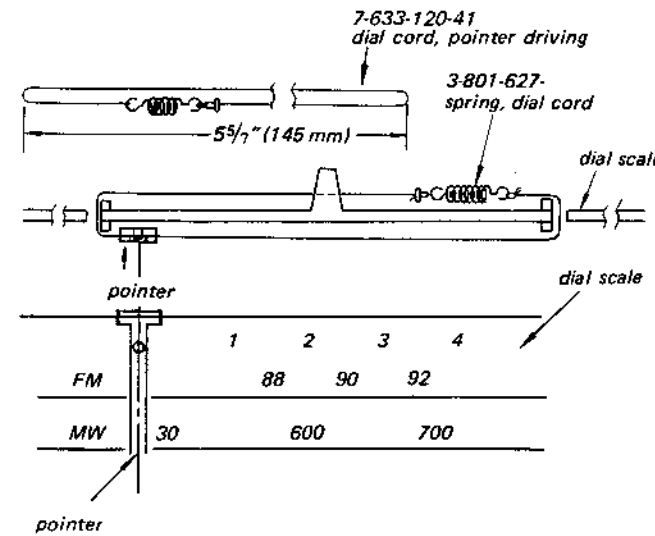

Fig. 2-24. Pointer sliding cord stringing
3. Attach the pointer at 0 on the scale as shown in Fig. 2-24.